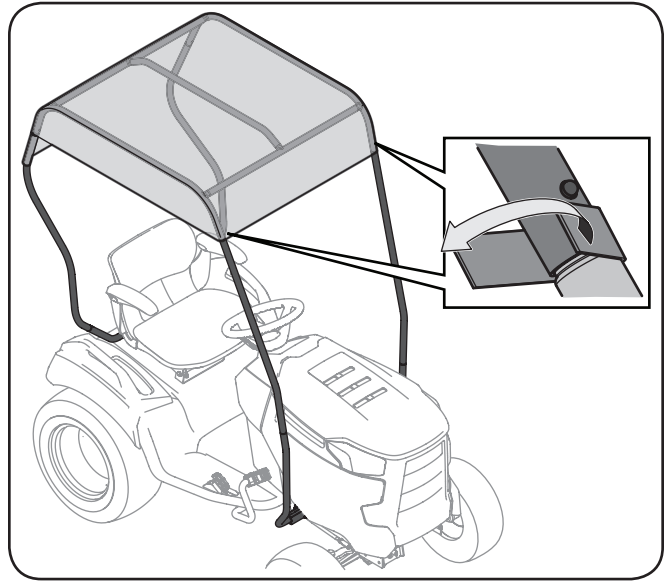

Figure 3-7
- There are eight velcro straps on the inside of the sun shade; four in the front and four in the back. Secure the front and back of the sun shade with these straps as shown in Figure 3-7.